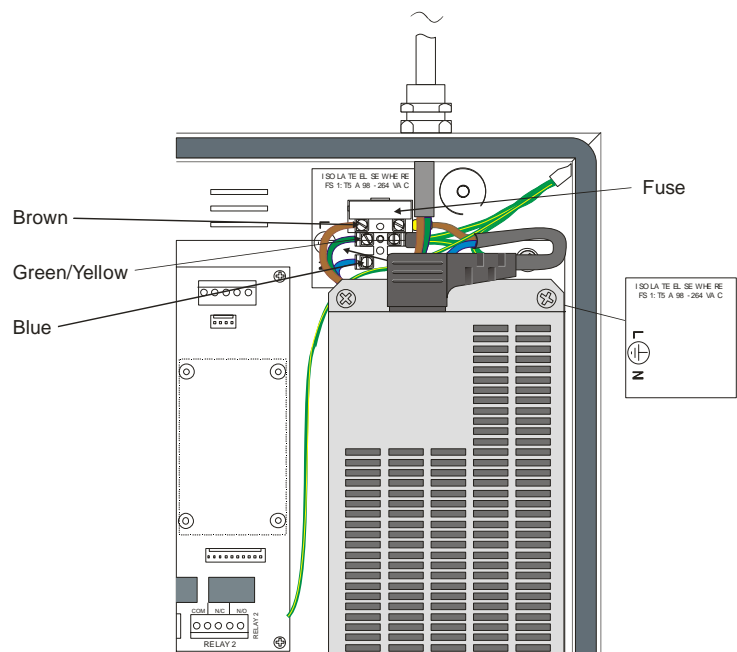

Figure 5 – Mains Input Arrangement – ZX1Se / ZX2Se
- The ZX1Se and ZX2Se Fire Alarm Control Panels receive power from a 115V - 230V, 50Hz external supply. The current flows through a back-box-mounted fuse. The input mains voltage is converted to a safe extra low voltage (SELV). The location of the power supply ratings label is shown in Figure 5.